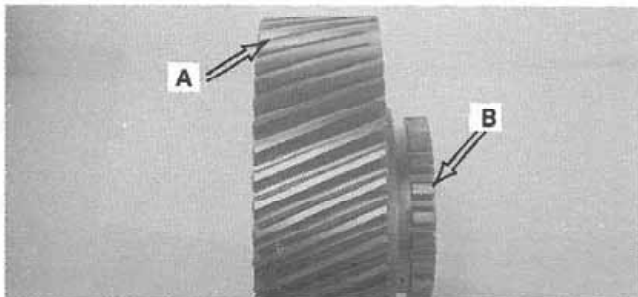

Figure 6:
New or only slightly worn gearteeth usually possess harmless irregularities which occur during manufacture. An example is the gear illustrated (Fig. 6) in which the gearteeth (A) and gear hub splines (B) have shaving marks. This gear is reusable if there are no cracked or damaged gearteeth and the bearing bore passes inspection.